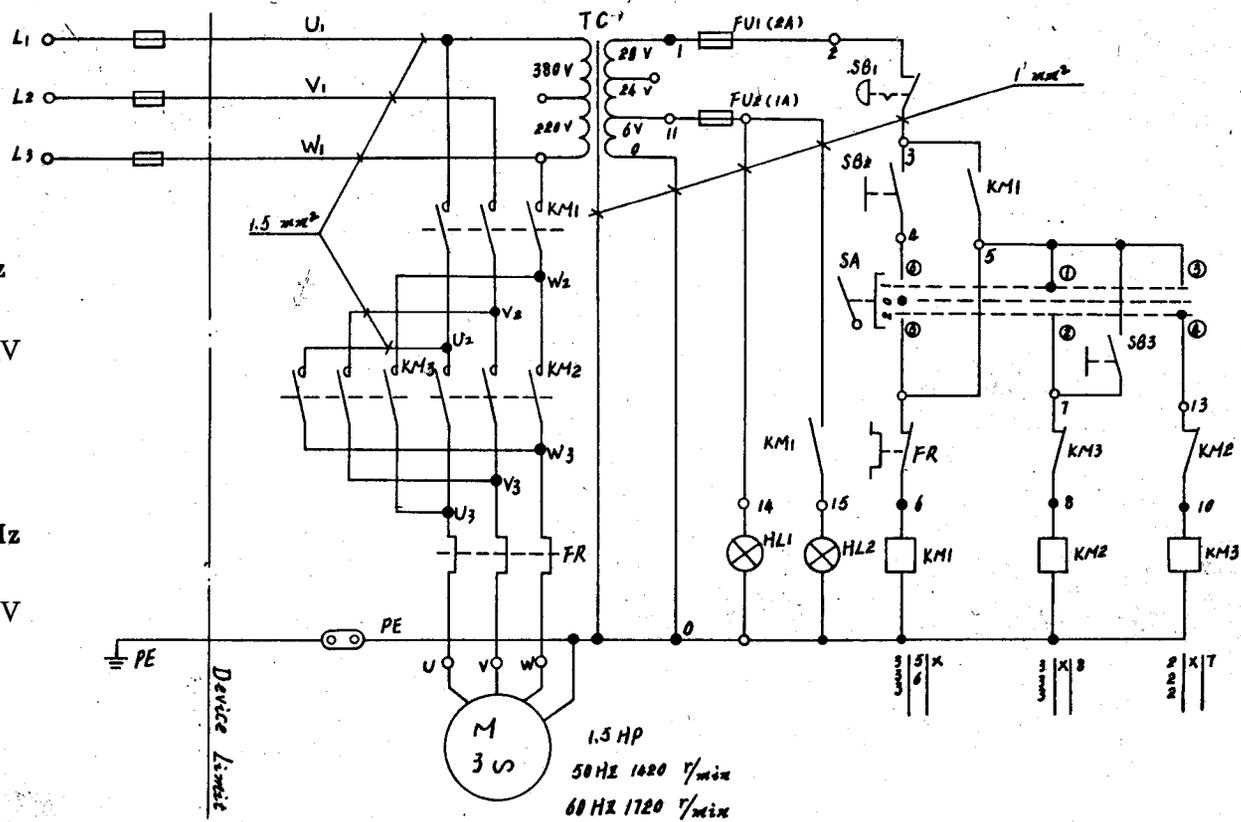
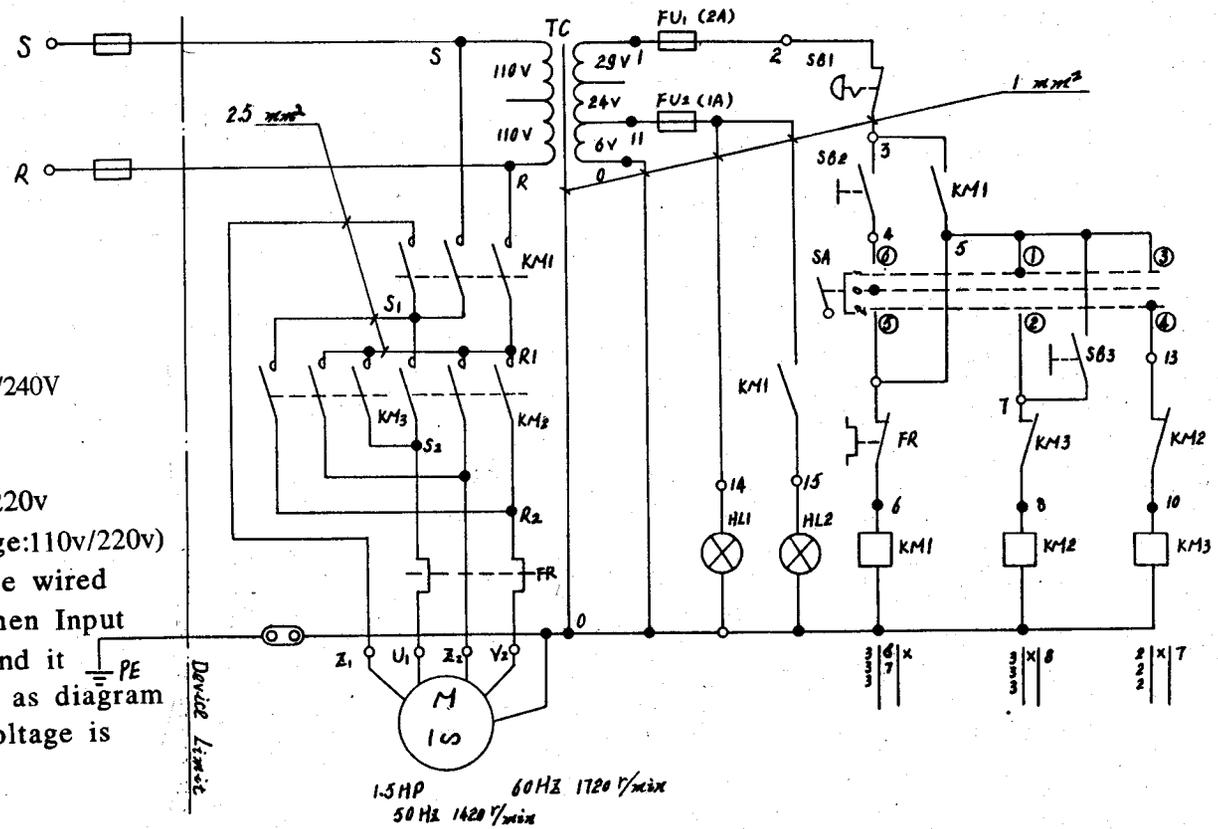

Fig. 7 Wiring Diagram For 3 Phase
Fig.10 Wiring Diagram For 1 Phase (1)
- \* The standard lathe are wired for 220v/380v 3 phase 60 & 50 Cycle [See Fig. 7] or for 110v/220v 1 phase 60 & 50 cycle (See Fig.10) according to order. For connection to motor (1 phase. 110v/220v). please see Fig.14 transferring connection diagram.